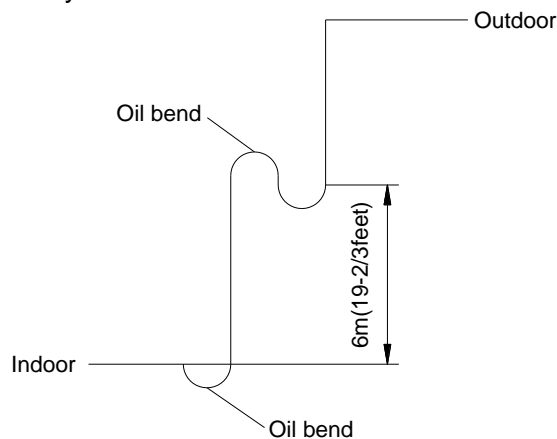

Figure 3-2-9
①	The power cord and the wire of the fresh air valve are high-voltage, while the communication cord and connection wire of the wired controller are low-voltage. They should run separately against electromagnetic interference.
②	The high-voltage and low-voltage lines should pass through the rubber rings at different electric box covers.
③	Do not bundle the connection wire of the wired controller and the communication cord together, or arrange them in parallel, otherwise improper operation would occur.
④	The high-voltage and low-voltage lines should be fixed separately and securely, with internal big clamps for the former and small clamps for the latter.
⑤	Tighten the indoor/outdoor connection cord and power cord respectively on the terminal boards with screws. Faulty connection may cause a fire.
⑥	If the indoor unit connection cord (to the outdoor unit) and power supply are wired incorrectly, the air conditioner may be damaged.
⑦	Connect the indoor unit connection cord properly based on the corresponding marks as shown in Figure 3-2-9.
⑧	Ground both the indoor and outdoor units by attaching a ground wire.
⑨	Unit shall be grounded in compliance with the applicable local and national codes.
(6) Electric wiring of outdoor unit side